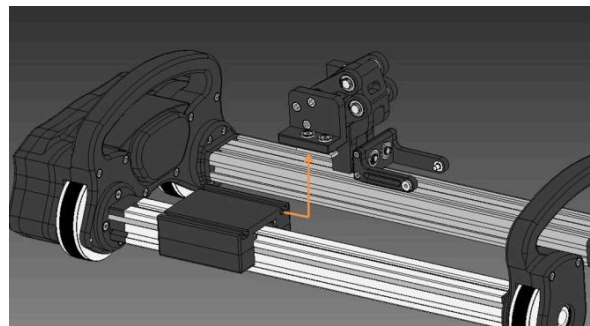

Figure 3
- 4) Slide the Probe Guide to the left or right until it is clear of the Carriage. Lift off the Scanner (Figure 3).